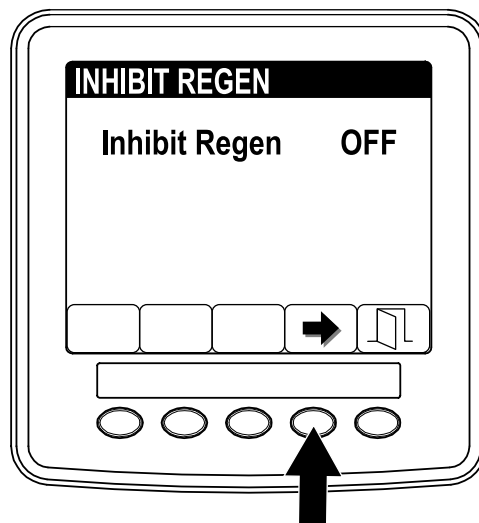

Figure 44
3. Press the button 4 to change the inhibit regeneration setting from On to Off (Figure 44) or from Off to On.